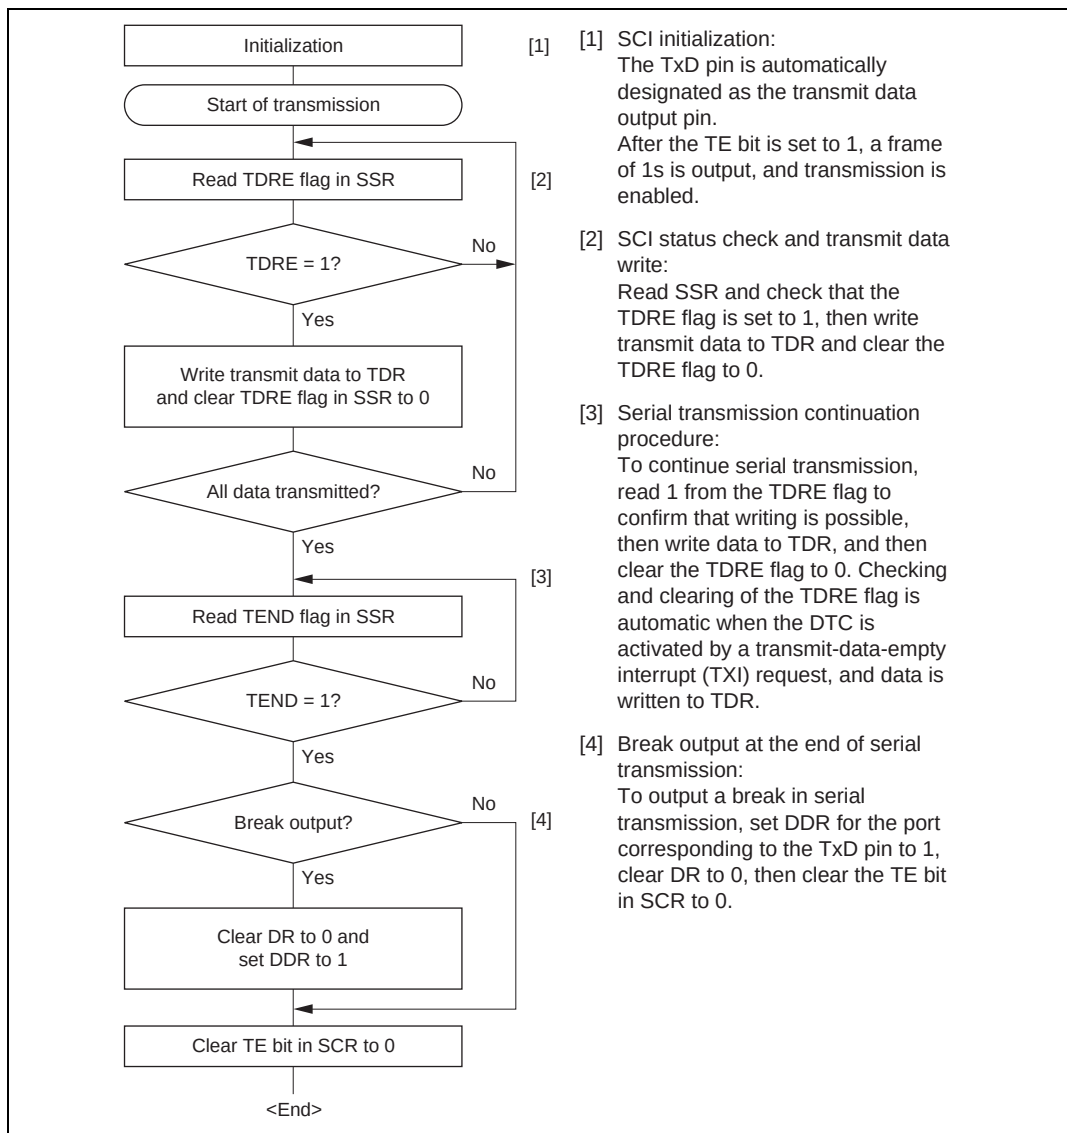

**Figure 12.5 Sample Serial Transmission Flowchart**
**Serial data transmission (asynchronous mode):** Figure 12.5 shows a sample flowchart for serial transmission.